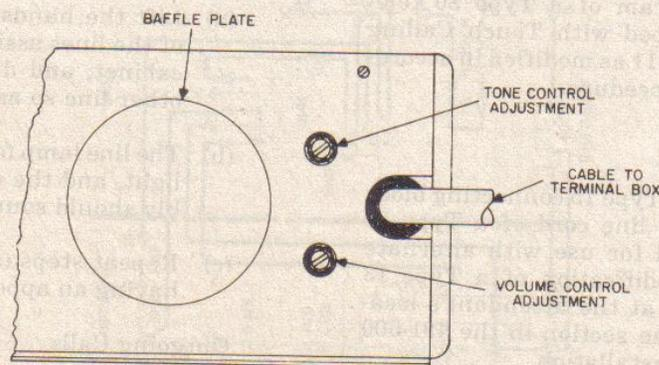

Figure 13. Location of Tone and Volume Control Adjustment Screws.
3.05 The volume control is accessed through the bottom hole located at the rear of the cabinet (Figure 13). Adjust this control to the maximum desirable volume as determined by the customer. To increase the volume, turn adjustment screw in a clockwise direction.
3.06 The tone control is accessed through the top hole located at the rear of the cabinet (Figure 13). When more than one secretarial answering cabinet is installed in the same office, adjust the tone controls to different frequency outputs on each cabinet. The different frequency outputs will indicate which cabinet has a call to be answered.